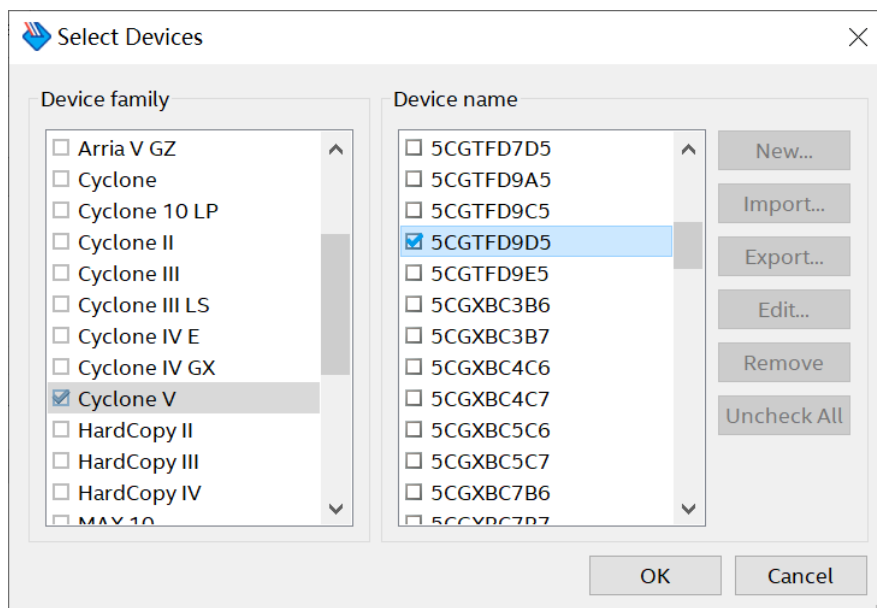

Figure 6-4 Select Devices page
12. As shown in **Figure 6-4**, choose the same FPGA device to with the SOF Data.